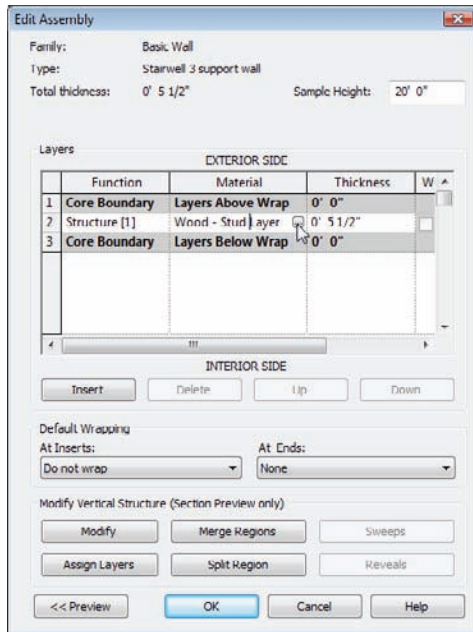

FIGURE 16.1 Changing the structure to a 5 1/2" (140mm) wood stud
8. Click into the Material cell for the Structure row, as shown in Figure 16.1.
11. Change the thickness to 5 1/2" (140mm) (see Figure 16.1).